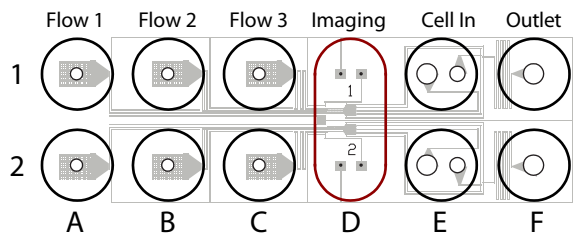
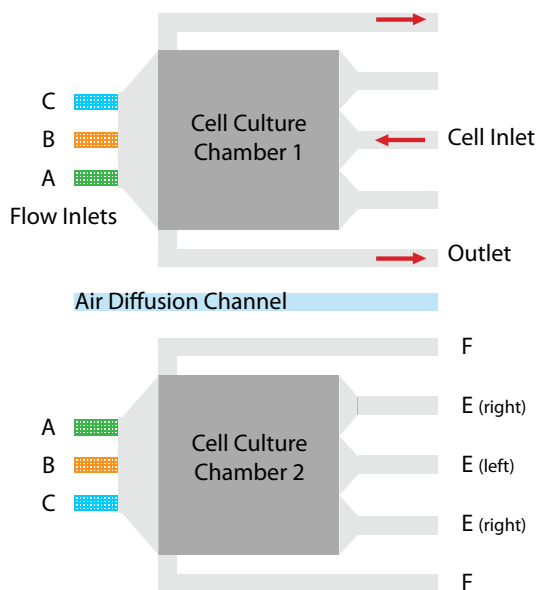

Figure 1 Well Layout
Figure 2 Culture Area
1. The M2 microfluidic plate consists of 2 independent flow units as depicted in Figure 1. Each unit has 6 well positions: 3 flow inlets (A-C), an imaging area (D), a cell inlet (E), and an outlet well (F). Two 1x1x0.1 mm cell culture chambers are located in well D, with the design depicted in Figure 2. The plate is shipped pre-primed with 100 μ l PBS containing Penicillin/Streptomycin/Amphotericin B in each well, which can be replaced with a buffer of choice prior to experiment. The plates have a guaranteed shelf-life of 6 months.